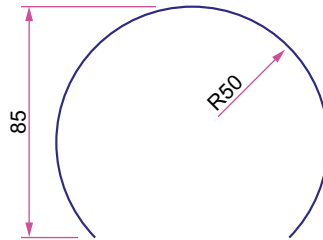

Fig. 14.33 Second example – 3D Surface. The part circle to be extruded
1. In the **Top** view on a layer colour **Blue** construct the circle (Fig. 14.33) using the **Break** tool break the circle as shown.